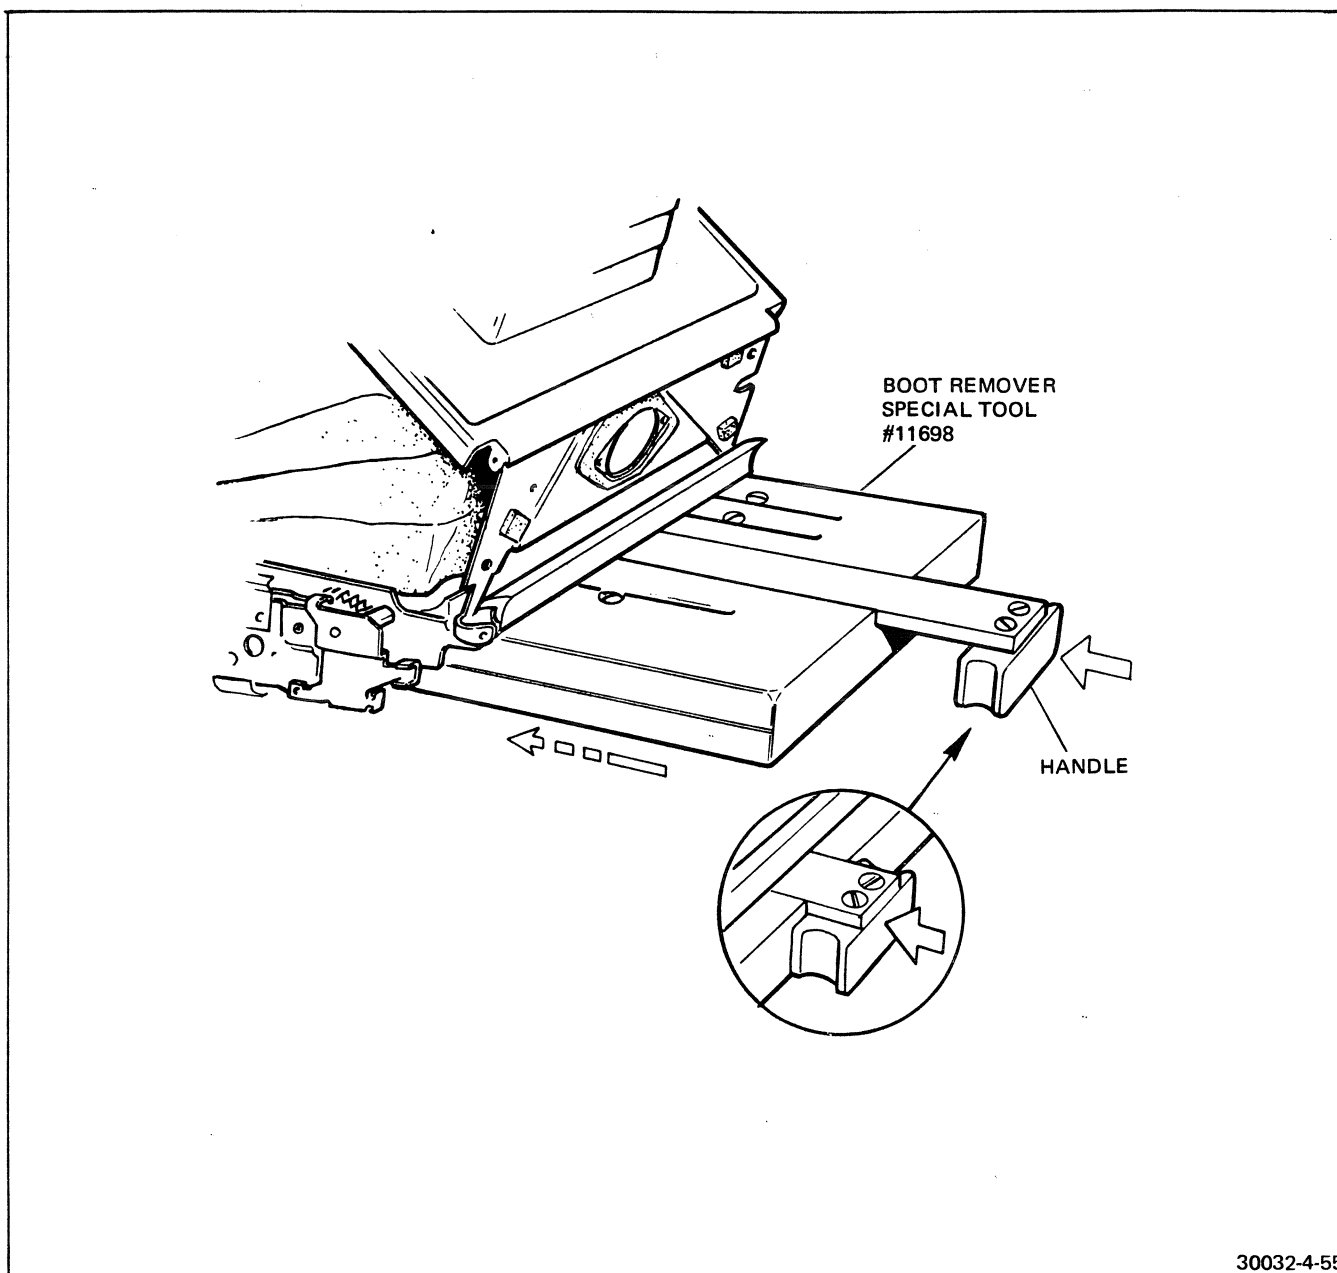

FIGURE 4-55 BOOT REMOVAL TOOL
10. Referring to Figure 4-55, note the orientation of the handle — this must be as shown to prevent damage to the tool and/or the camera. Insert the Special Tool #1 1698 into the film compartment of the camera. See that the plunger handle is out away from the body of the tool. Be sure the tool is fully seated in the film compartment.